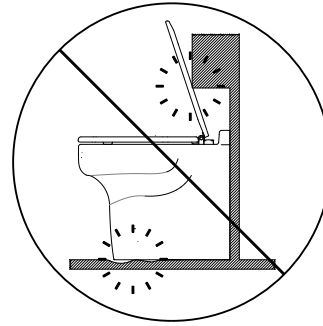

FIG 1
**Important:** Discharge Hose should be supported. Attach support strap to seat bolt as shown in FIG 1.